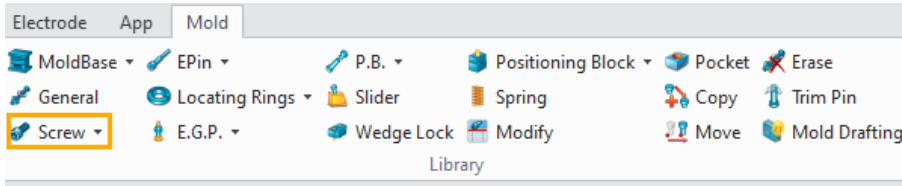

Figure 53 Mold Library
**STEP 01** Click **Screw** in the Mold Library as shown in Figure 53.